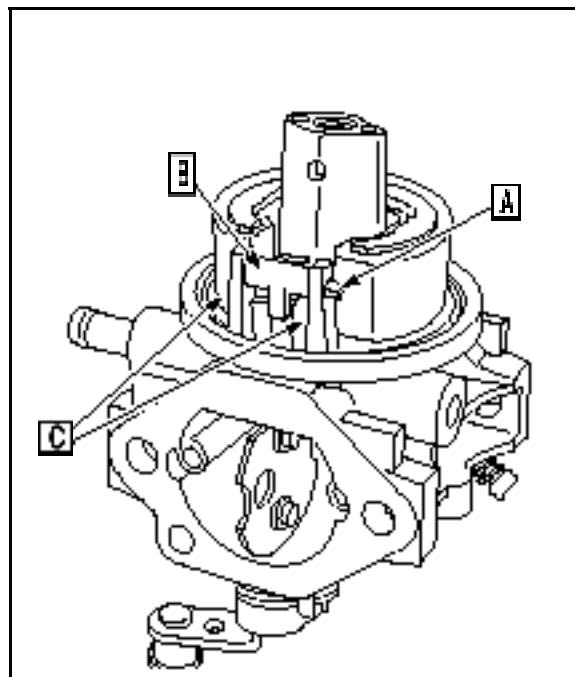

Fig. 97
3. Remove float hinge pin (A), float (B) (Fig. 97), and inlet needle.
4. Tap the end opposite the flats with a center punch (C) (Fig. 97) until it is loose.